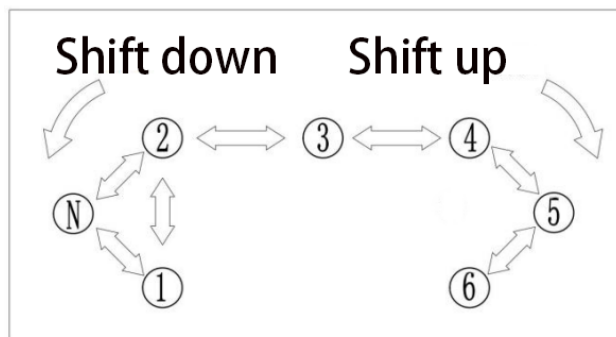
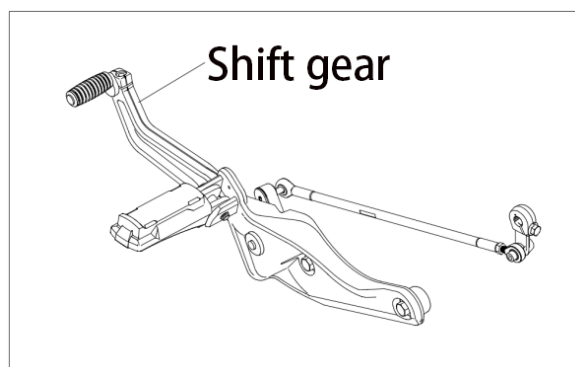

Fig. 17 Shift position diagram
Figure 18 Shift lever
9.5.1. Shift operation (Figure 17, Figure 18)